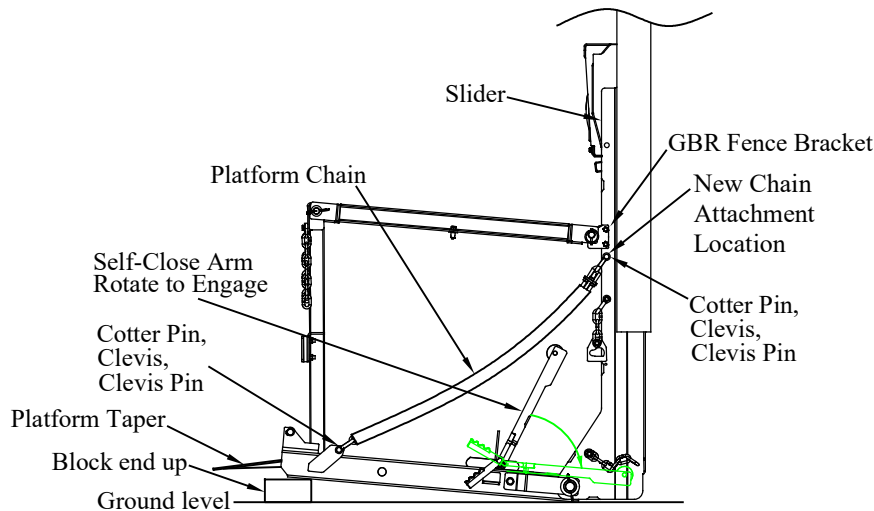

Figure 7: Install new, shorter platform chain.
1. **Attach** the platform chains to the slider using the supplied clevis, clevis pin, and cotter pin (Figure 7).
Note: Chains will attach to the slider in a different location. Use existing hole in slider below the GBR fence bracket (Figure 7).
2. **Attach** the platform chain to the platform using the supplied clevis, clevis pin, and cotter pin (Figure 7).
5. **Raise** the platform off of the ground and the block (Figure 7).
7. **Engage** the self-close arm (Figure 7).